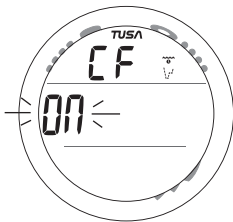

Fig. 53 - SET CONS FACTOR
**SET CONSERVATIVE FACTOR**, information includes (Fig. 53):